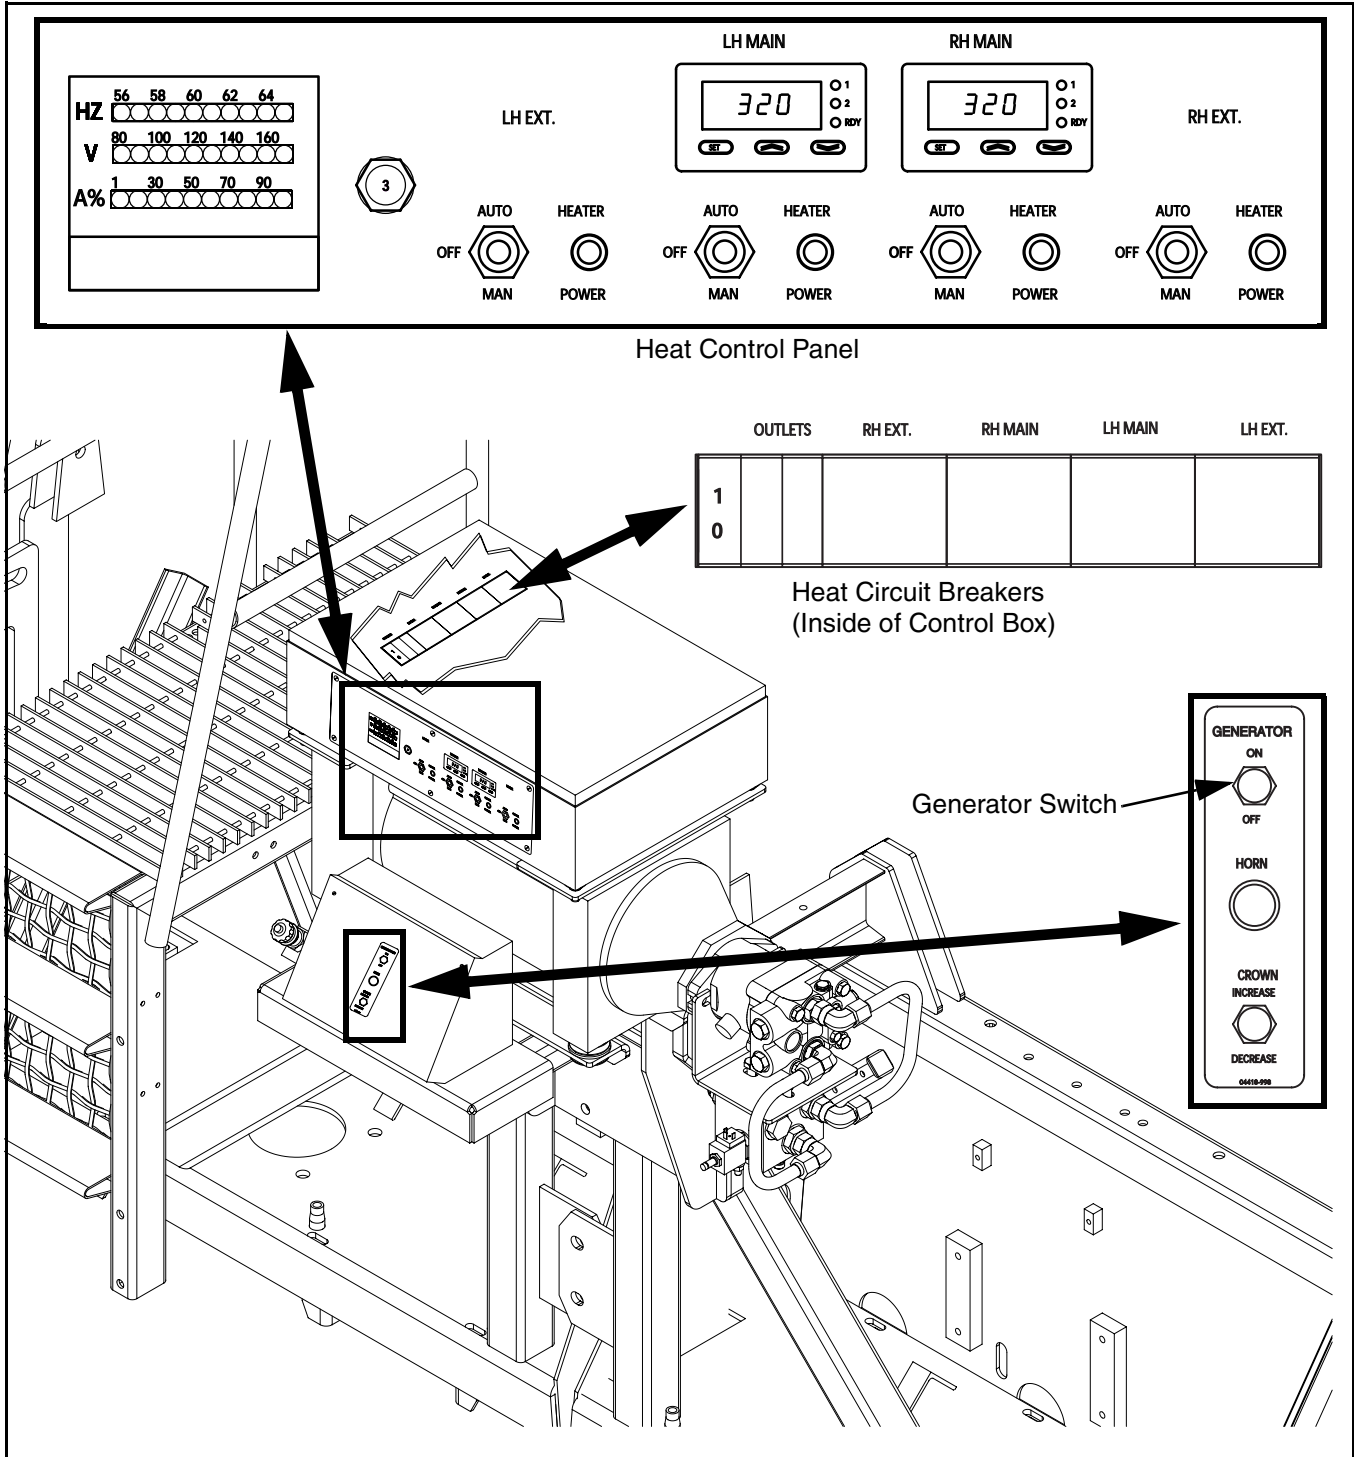
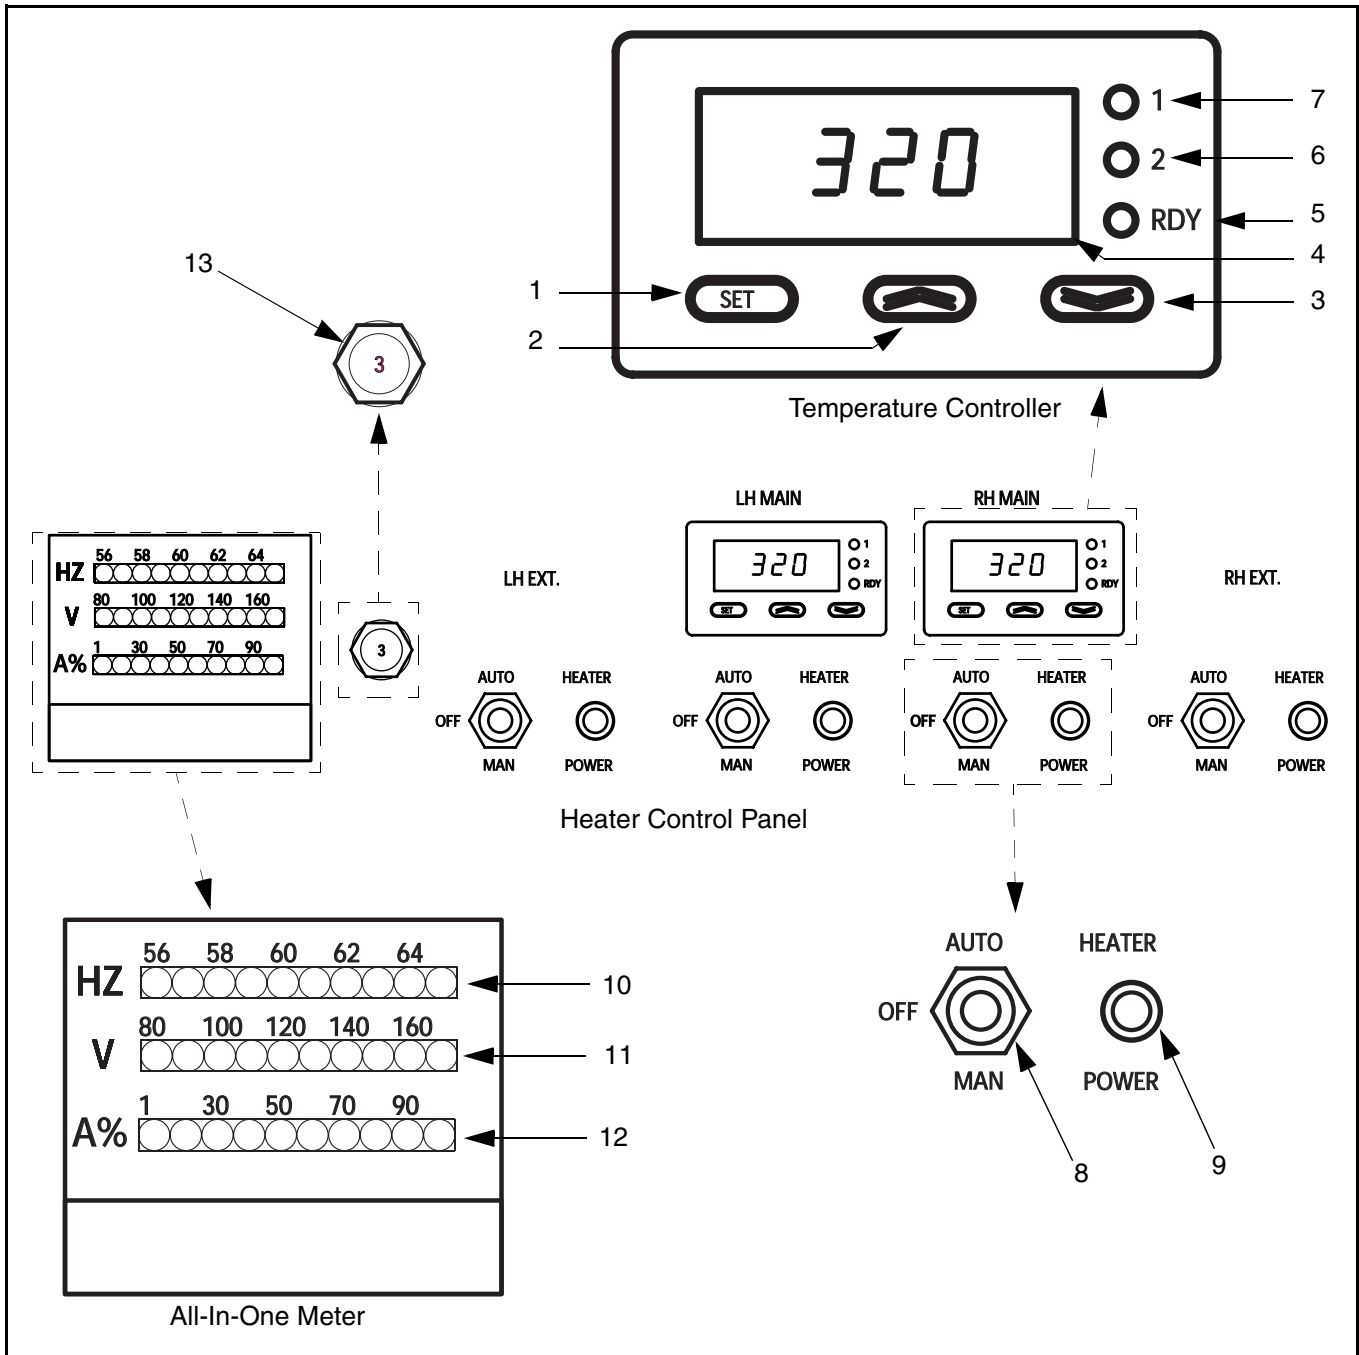

Figure 7 Screed Electric Controls and Indicators
Figure 8 Screed Heater Control Panel
The screed heater control panel (Figure 8) is designed to provide ease of operation and the ability to monitor and control the heating of the screed electrical components.
- 2) Turn generator switch ON (Figure 7).
- 3) Turn each screed section control switch to AUTO (Figure 8).
If screed section heater power indicators (Figure 8) do not light, check circuit breakers inside of control box (Figure 7).